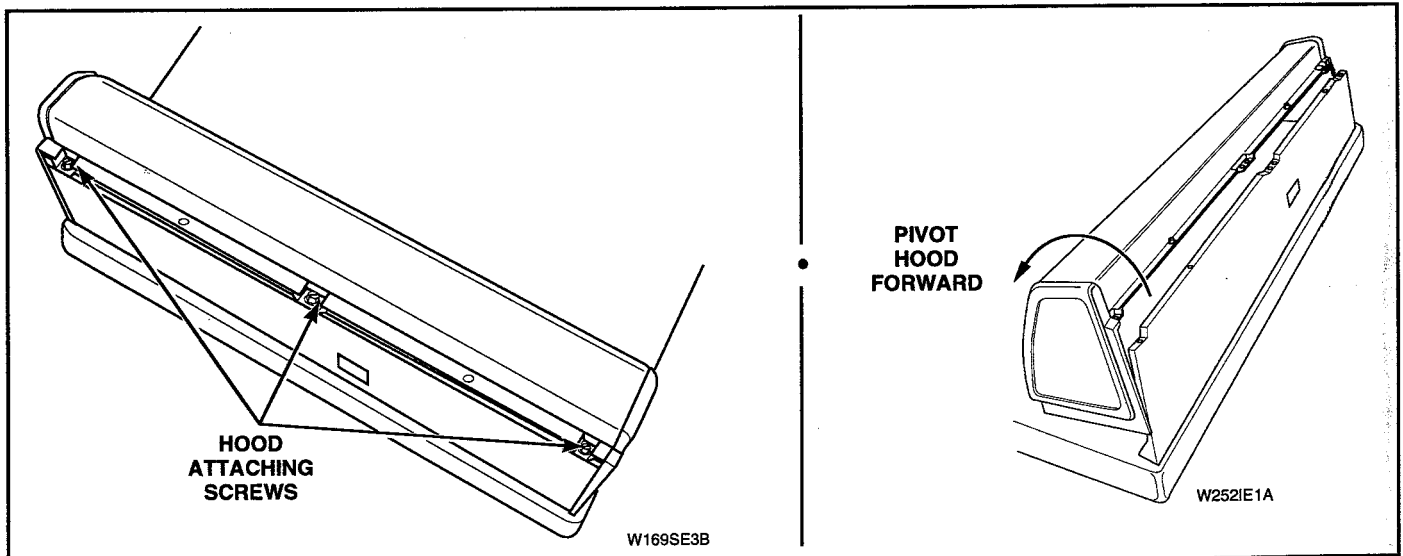

Figure 5-1
#### 1. CONTROL HOOD ASSEMBLY (See Figures 5-1 through 5-3)
- Remove three screws holding rear of hood assembly to control hood rear panel. See Figure 5-1.
- Pivot hood assembly forward on cabinet top. See Figure 5-1.
See Figure 5-1.